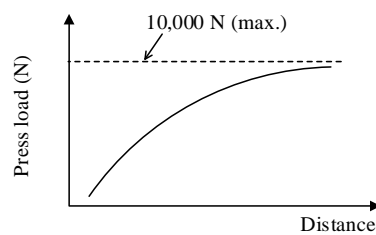

Figure 11 Maximum Press Load
- Maximum press load:  $\leq 10,000 \text{ N}$  (See Figure 11)